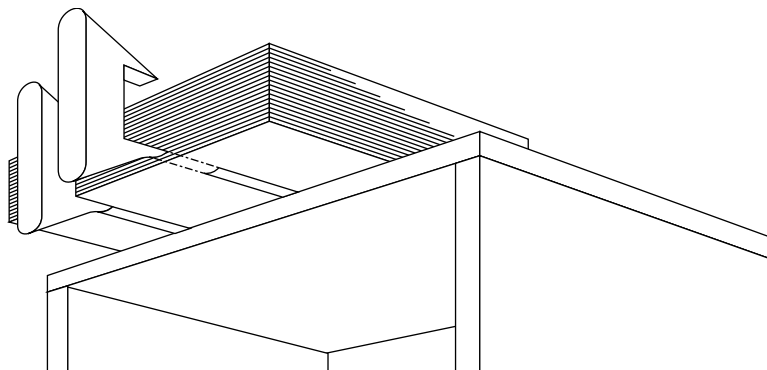

Figure 2-7 Attaching the Workstation Stand to the Workstation
3. Look at the underside of the workstation. You see guides for the workstation stand, as shown in Figure 2-7.